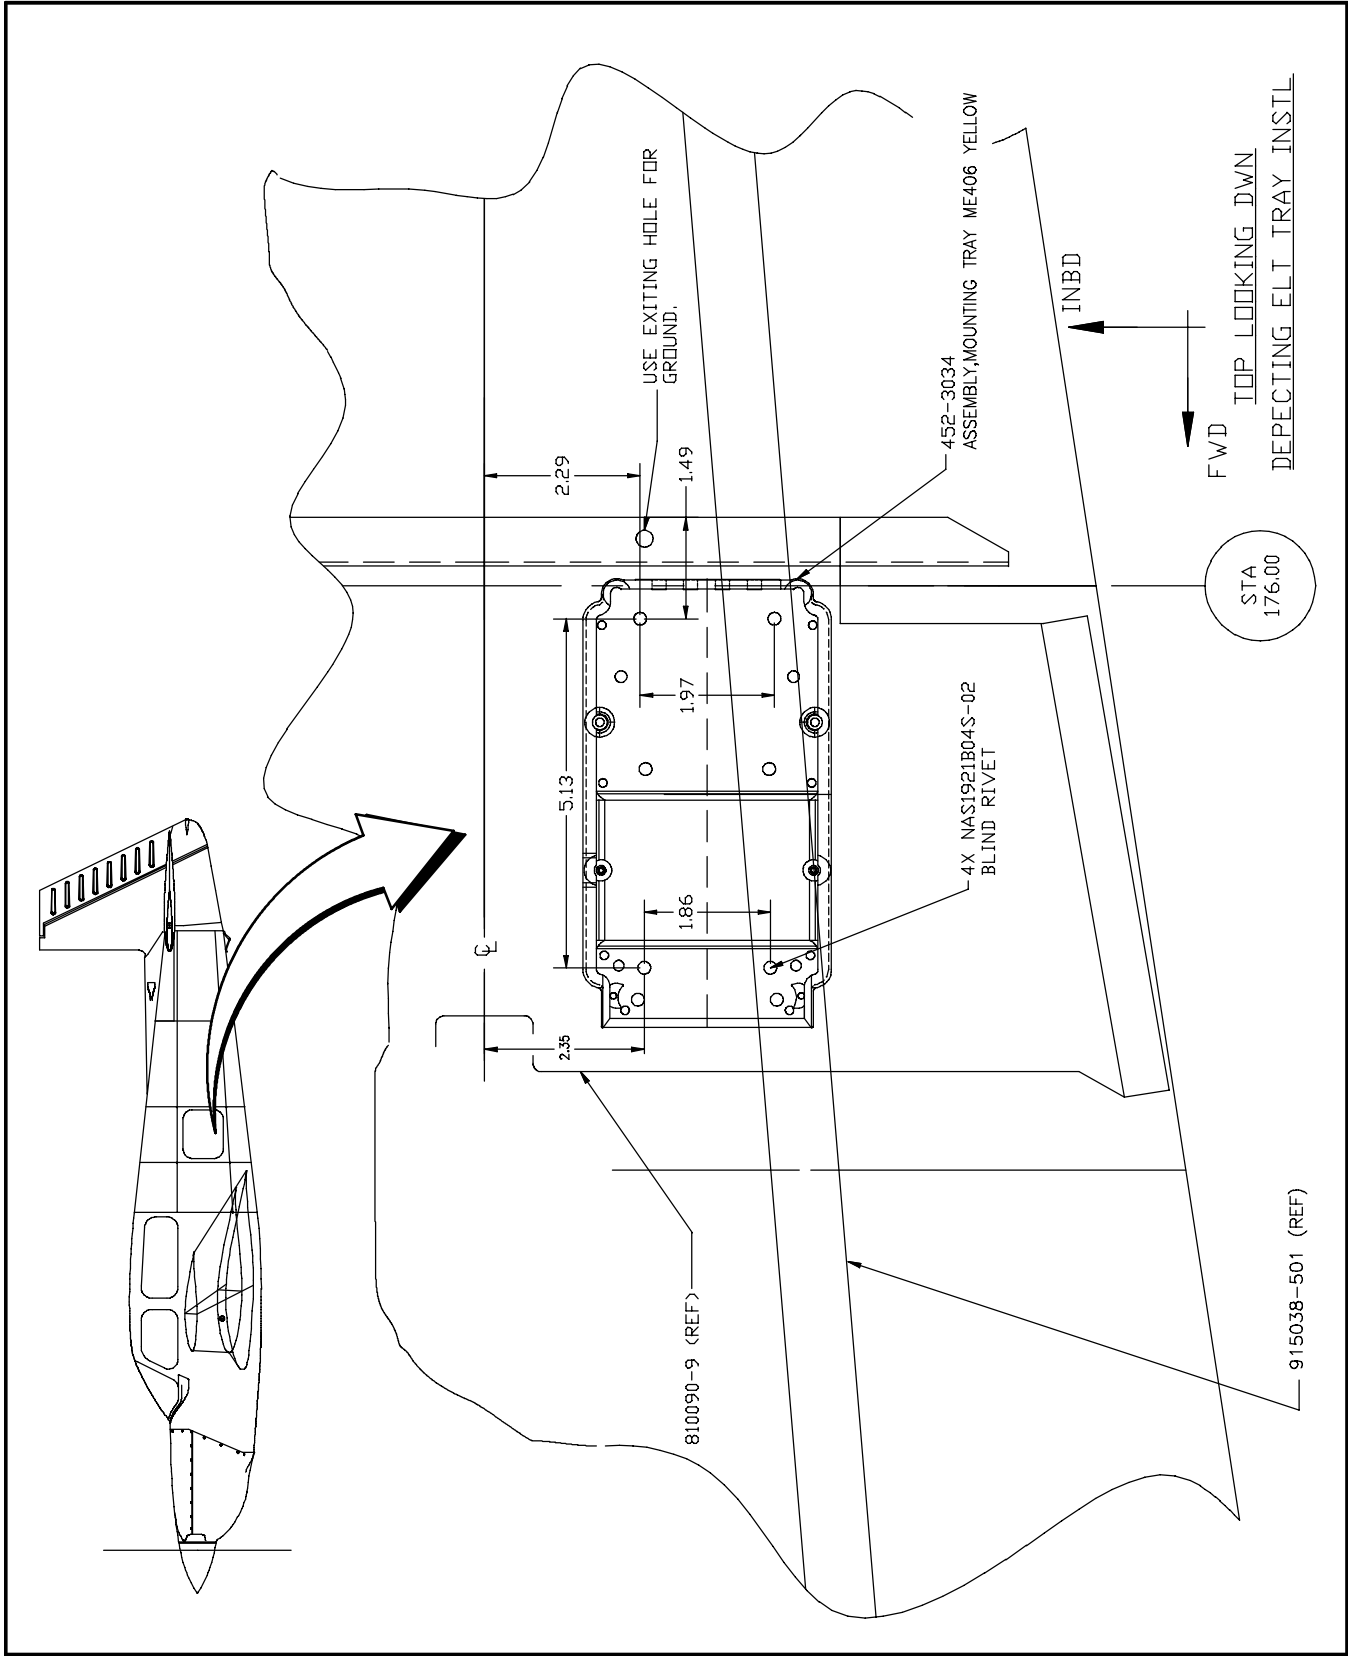

FIGURE 1 - ELT TRAY INSTALLATION - ME406MHz
STEP 1 - ELT ME406 INSTALLATION 940181-501: (refer to Figures 1 thru Figure 3)